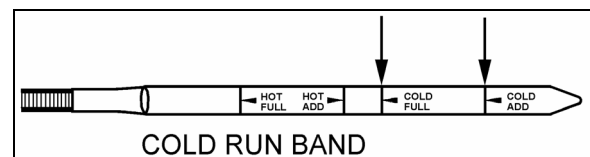

FIGURE 4: COLD CHECK 07050
3. Shift to Drive (D) and operate the engine for 30 seconds at 1000-1500 rpm; then shift to Reverse (R) to clear the hydraulic system of air.
5. Finally shift to Neutral (N) and allow the engine to idle (500 - 800 rpm).
6. While the engine is running, remove the dipstick from the tube and wipe it clean (Figs. 4 & 5). Insert the dipstick into the fill tube, pushing down until it stops.